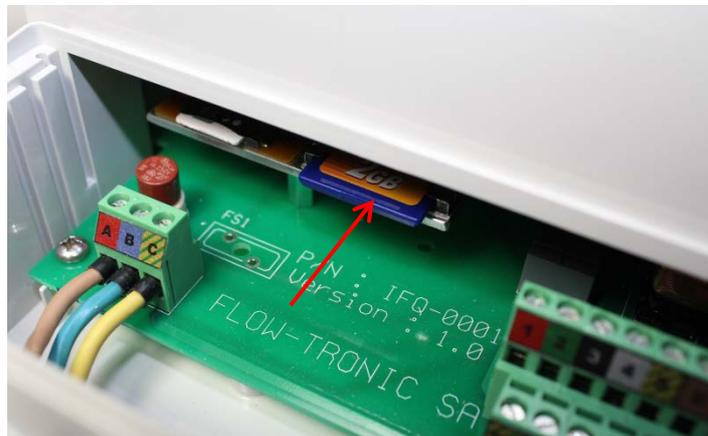

Figure 17: SD card slot
2. Insert the SD card (contacts facing downwards) the SD card slot show on Figure 17.